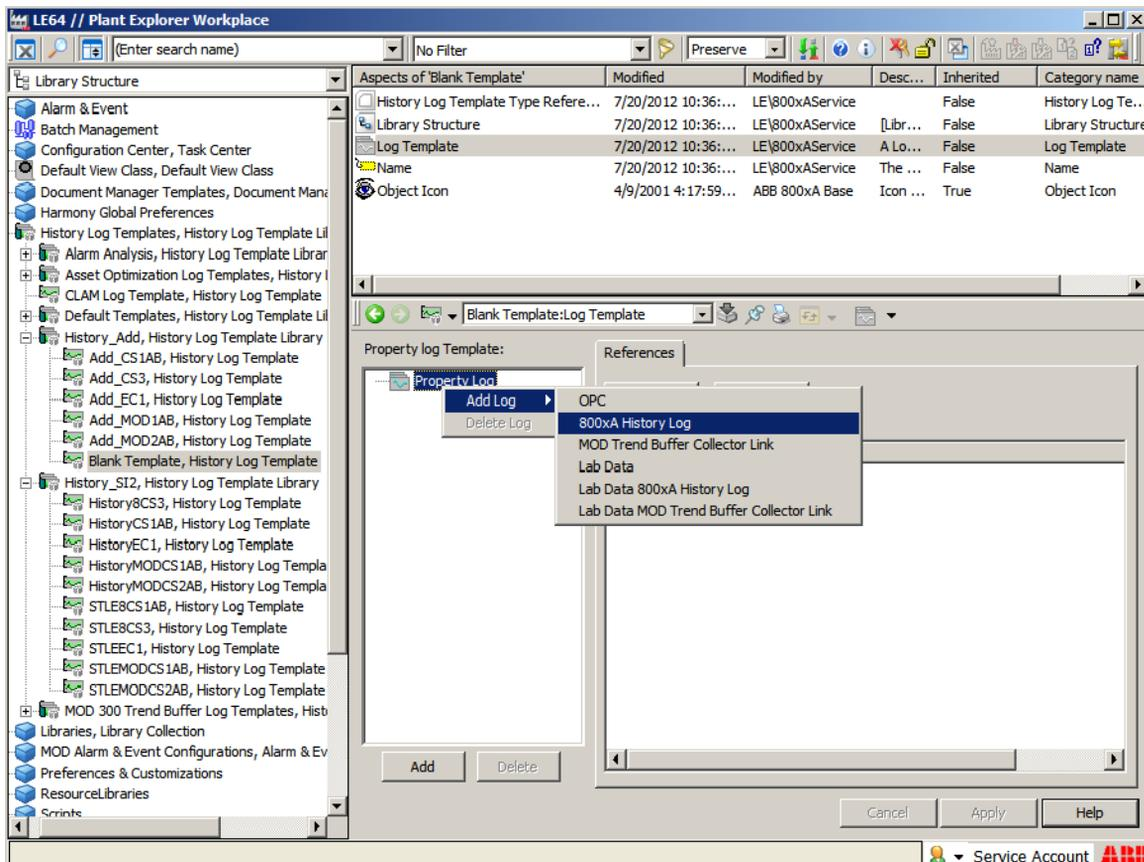

Figure 198. 800xA History Log Template - Add Log
7. Right-click **Property Log** in the Property Log Template and select **Add Log > 800xA History Log** from the context menu as shown in Figure 198.